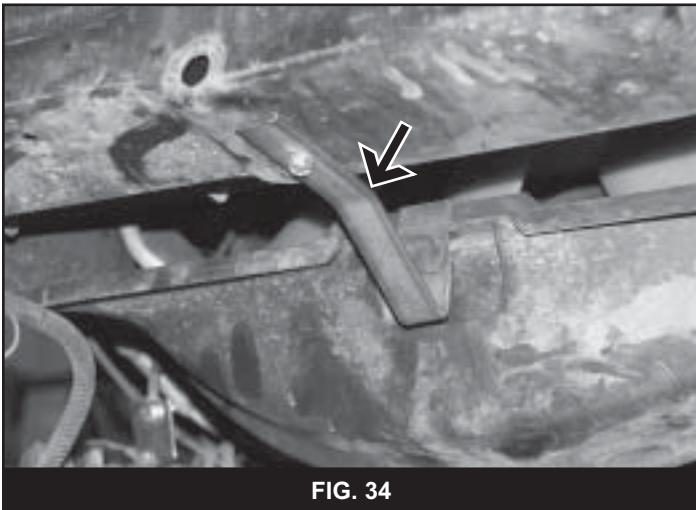

FIG. 34
77. Locate the lower fan shroud bracket in the center shroud clip and against the lower surface of the core support. Using the bracket as a template, mark the mounting hole on the core support. Drill a 1/8" hole at the mark (Fig 34). Mount the shroud bracket to the core support with a #12 x 3/4" sheet metal screw.